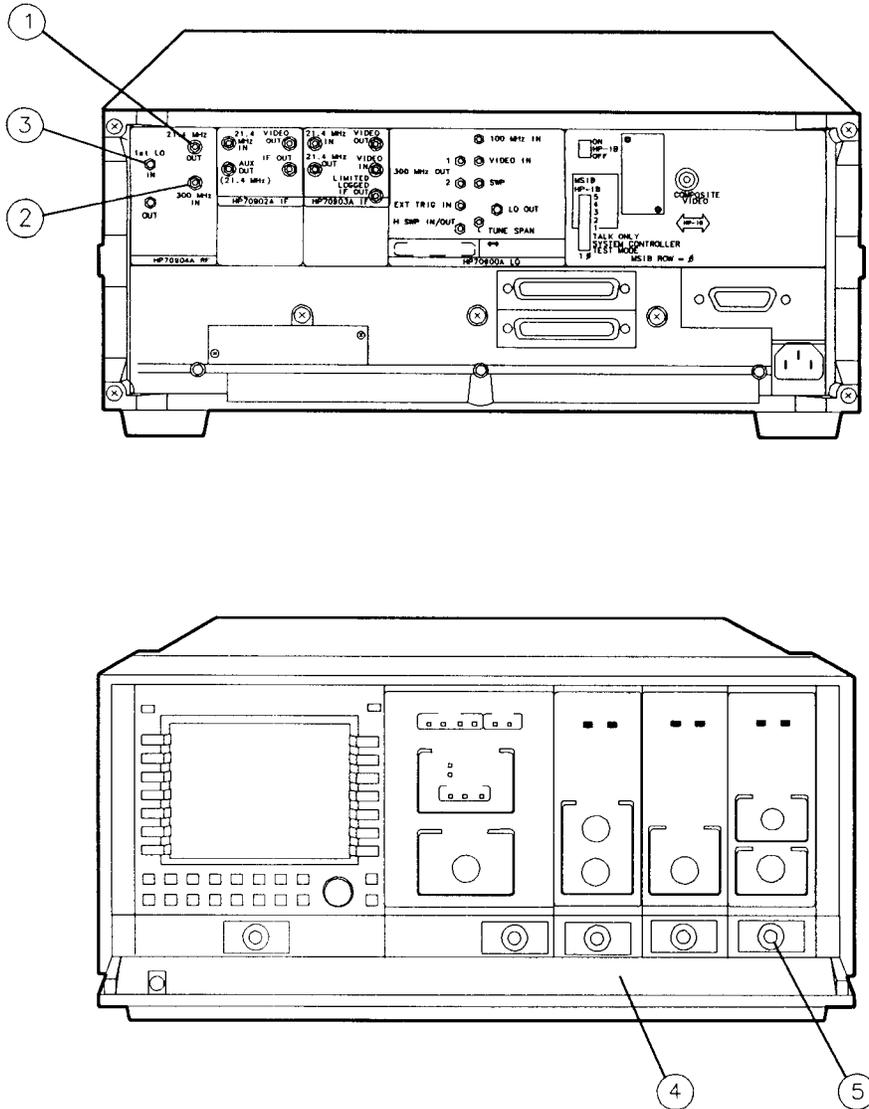

Figure 6-1. HP 70904A RF Section Replacement
2. Remove the following rear-panel cables before removing the module from the mainframe. See Figure 6-1.
- 21.4 MHz IF cable from A3 Last Converter J1 (1)
- 300 MHz cable from A3 Last Converter J2 (2)
- 1st LO IN cable from rear-panel J2 (3)